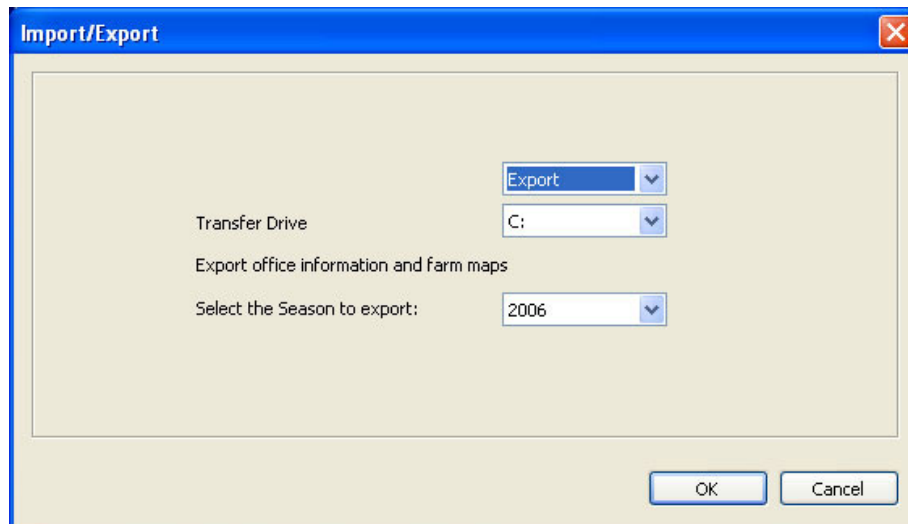

Figure 6-1: Import/Export window
Deselect all means that the map view will be displayed blank. Selected layers have a red tick next to them as in shown in Figure 6.1. You can select/deselect individual layers by clicking on the name.
2. In the Import/Export window (Figure 6-1 above) choose **Import** from the top dropdown list